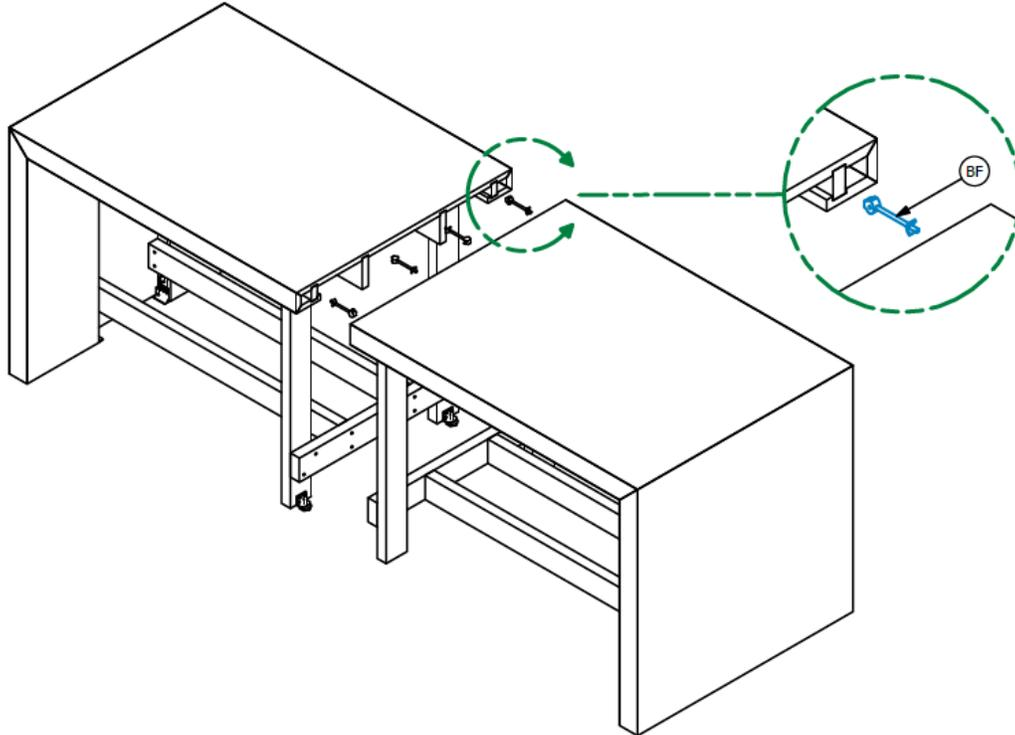

Fig. 02: Zip-Bolt Install
- 2.1.1 Align table halves (BA) to each other. With the 4mm Allen Key provided, use Zip-Bolt (BF) 4 places to begin the connection process using the factory machined pockets. One on each inside edge and two on the top underside. [Fig. 02]